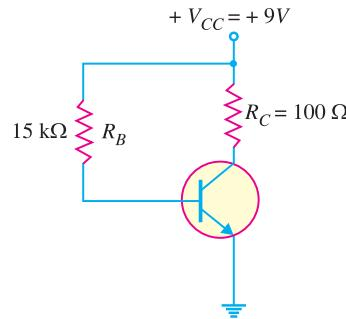

Fig. 9.54
12. The base bias circuit in Fig. 9.54 is subjected to a temperature variation from $0^\circ C$ to $70^\circ C$. The β decreases by 50% at $0^\circ C$ and increases by 75% at $70^\circ C$ from its normal value of 110 at $25^\circ C$. What are the changes in I_C and V_{CE} over the temperature range of $0^\circ C$ to $70^\circ C$? $[I_C = 59.6 mA ; V_{CE} = 5.96V]$